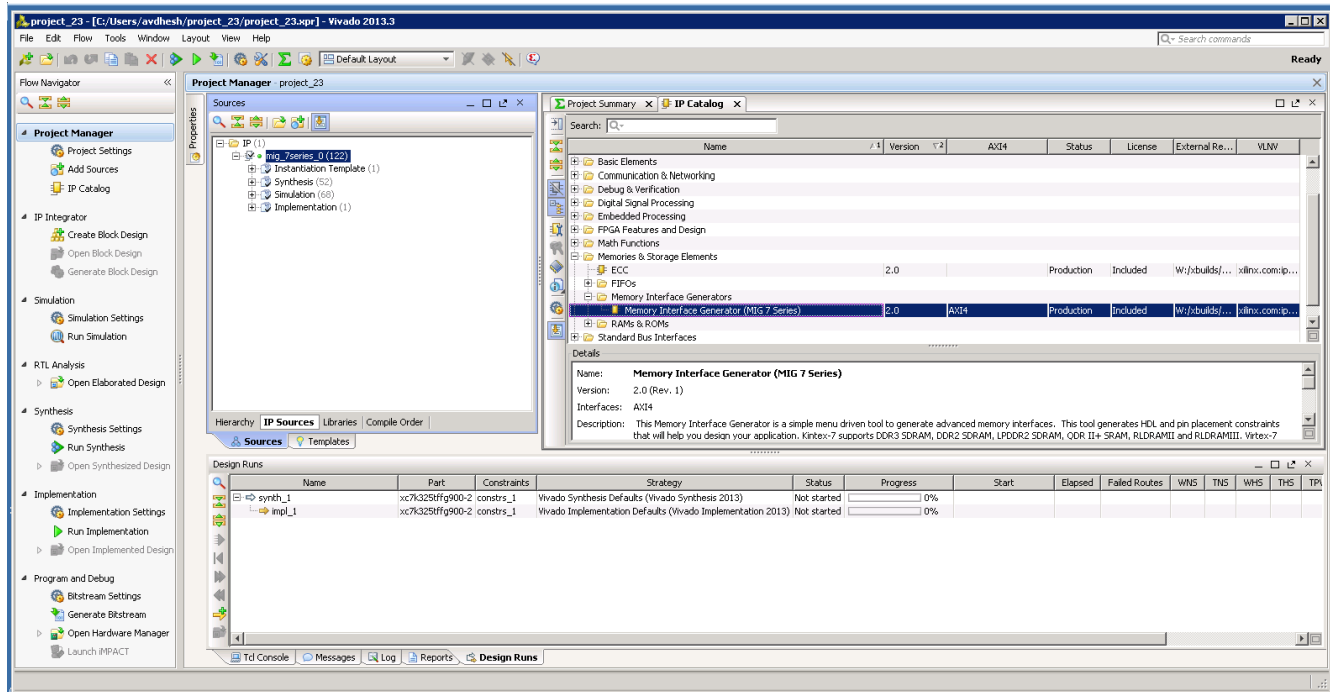

Figure 4-29: Vivado Tool Project Window (After IP Generation)
4. After generating the MIG design, the project window appears as shown in Figure 4-29.